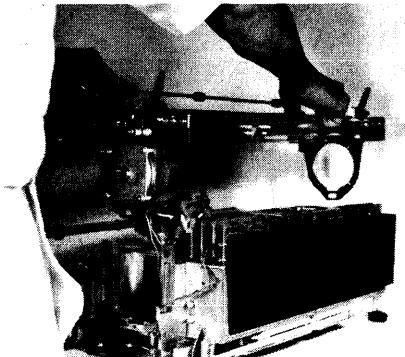

Figure 5-8 CARRIER SYSTEM REMOVAL - C
6. Carefully lift the Carrier Subassembly, which includes the paper feed drive motor, free of the printer's main frame as shown in Figure 5-8. Be sure the motor's wires are free and not caught in the wire bundle.
- Carefully lower the Carrier Subassembly into position on the printer's main frame. Refer to Figure 5-8.